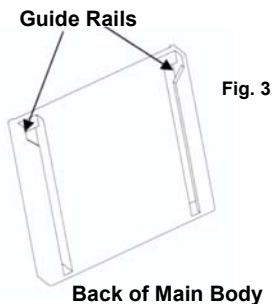
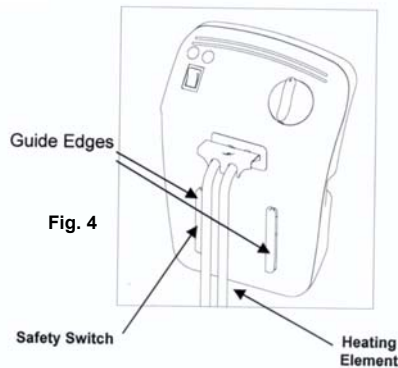

Fig. 3
Fig. 4
- Insert the "Guide Edges" on the Control Panel (Fig. 4) into the "Guide Rails" mounted on the metal body. (Fig. 3)